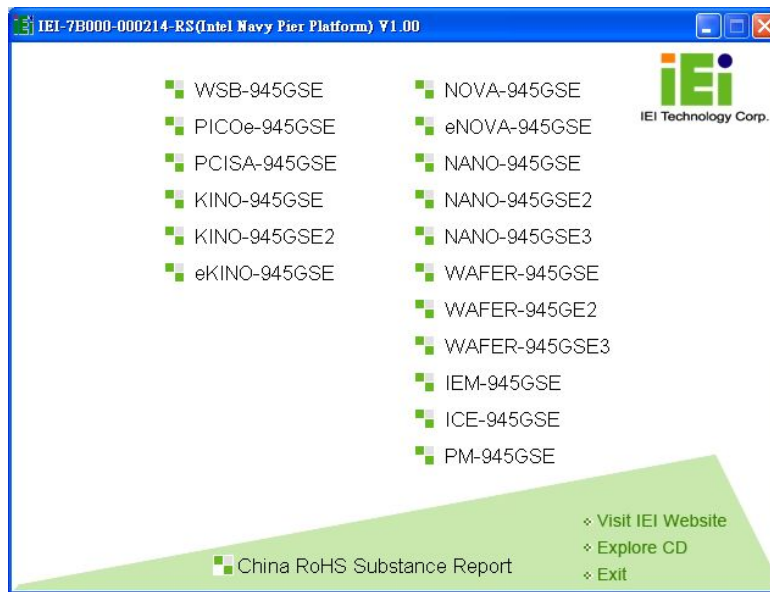

Figure 7-1: Start Up Screen
Step 2: The screen in **Figure 7-1** appears.